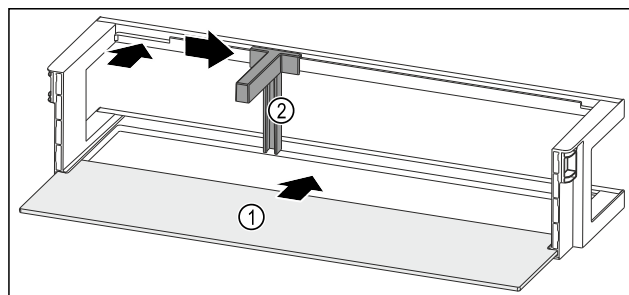

Fig. 150 Door rack with shelf
- Push the shelf Fig. 150 (1) into the side recesses.
- Insert the bottle holder Fig. 150 (2) in the recess.
- Push the bottle holder Fig. 150 (2) to the desired position to the side.